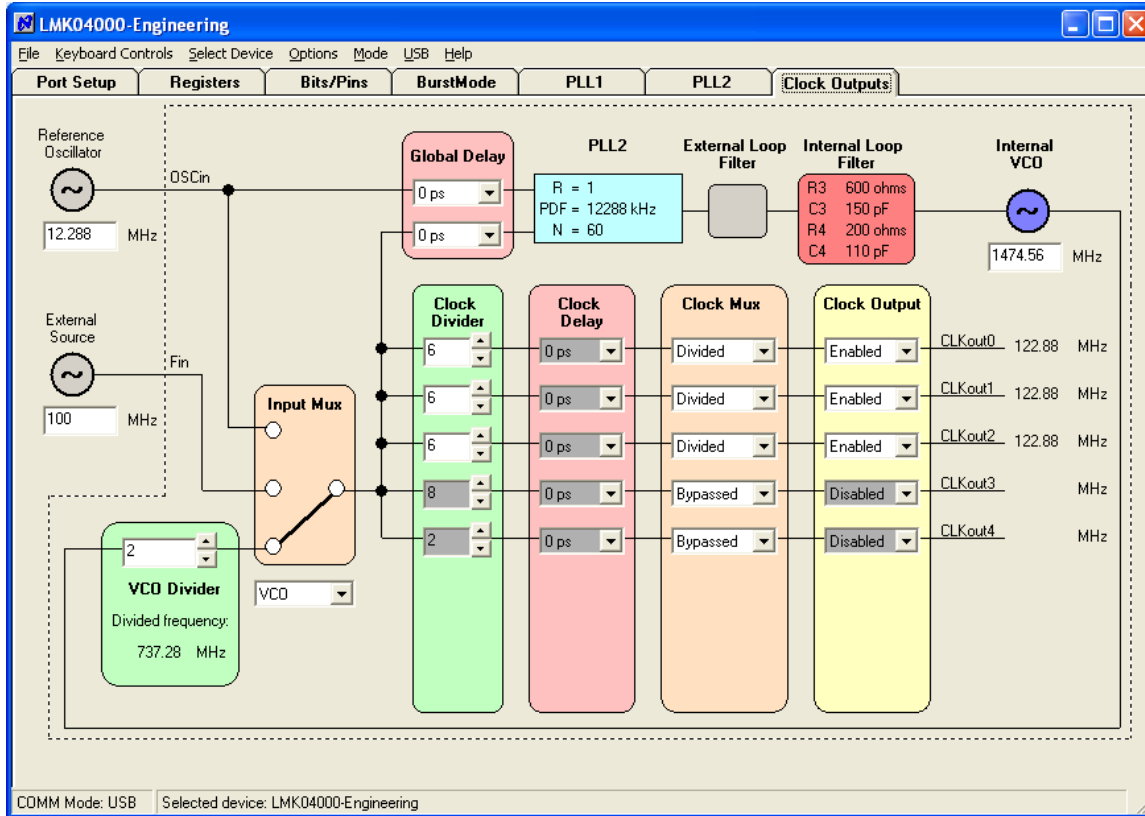
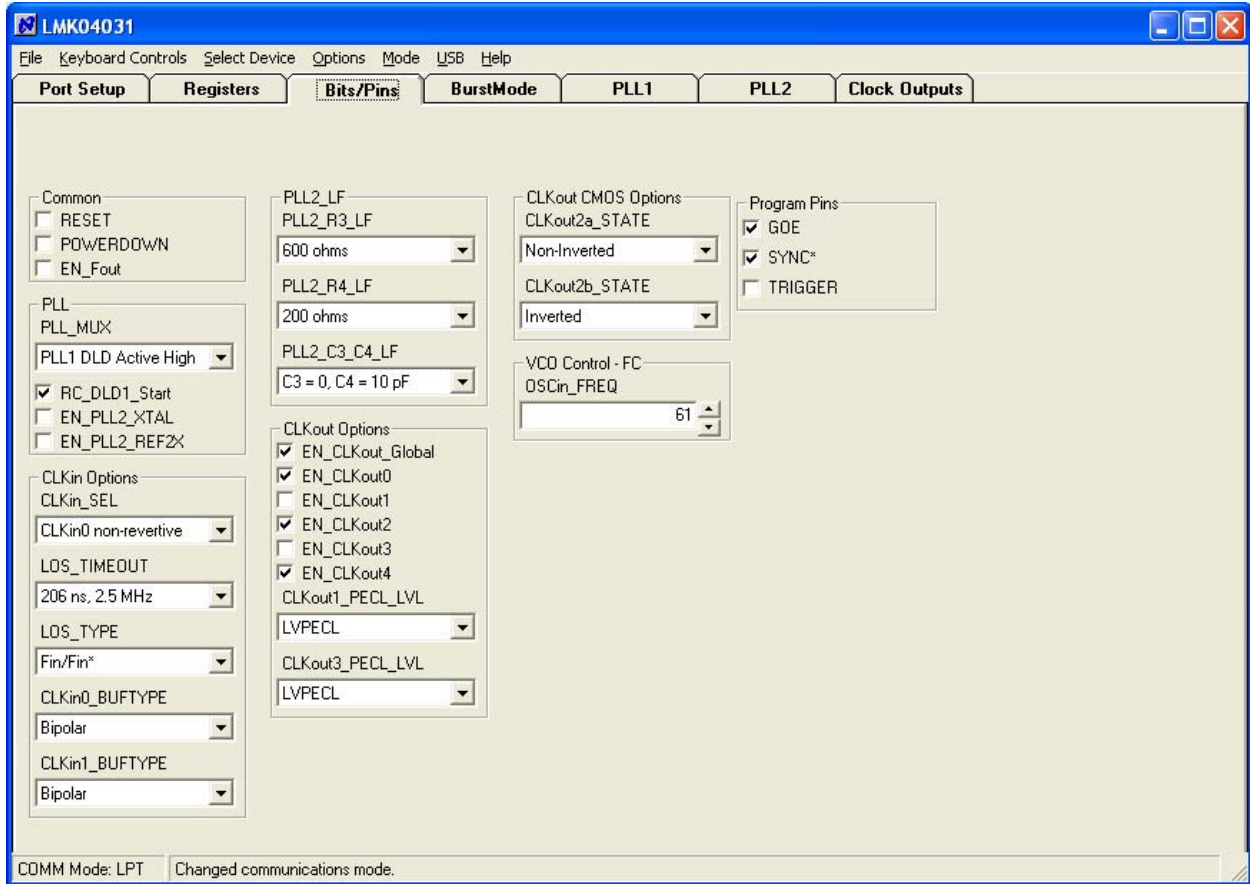

**Figure 9. Port Setup tab**
Figure 13. Bits/Pins tab.
11. See Figure 9 through Figure 13 on the following pages for illustrations of the contents and fields contained in each of the CodeLoader configuration tabs.